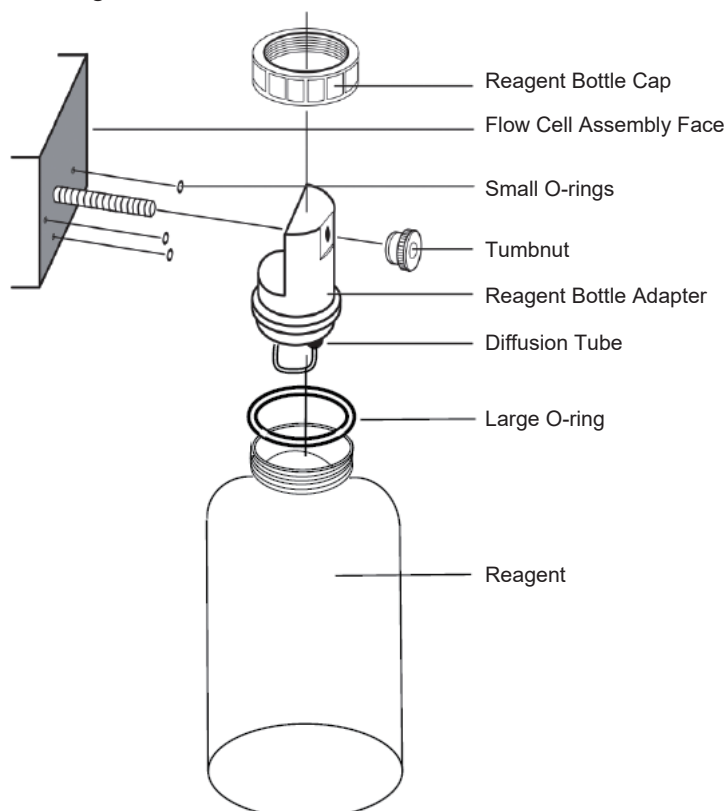

Figure 2.10 Reagent Bottle Assembly
5. Replace all three O-rings on the face of the reagent manifold. Refer to Figure 2.10.
6. Slide the reagent bottle adapter assembly over the threaded screw of the reagent manifold. Refer to Figure 2.10.